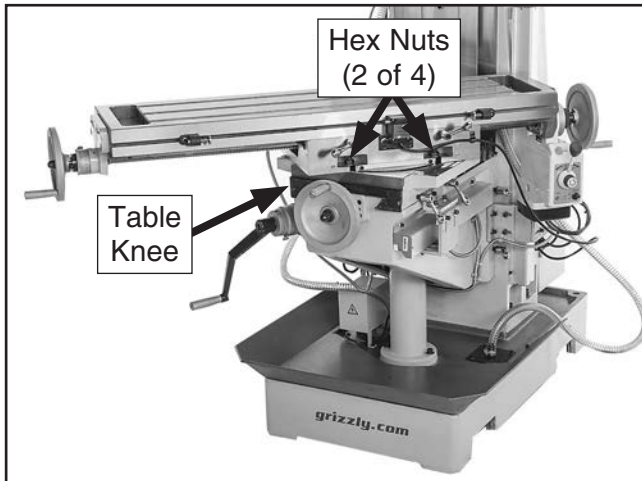

Figure 22. Table rotated 45° to the right.
The table rotates 45° left or right (see **Figure 22**).
3. Loosen four hex nuts that secure table to knee (see **Figure 22**).